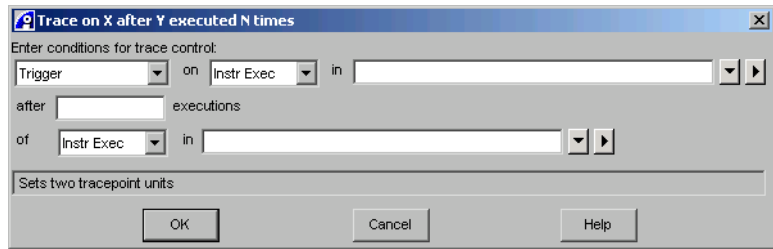

Figure 2-52 Trace on X after Y executed N times dialog box
2. Select **Debug → Tracepoints → Trace on X after Y executed N times...** from the Code window main menu. The Trace on X after Y executed N times dialog box is displayed, as shown in Figure 2-52 on page 2-150.